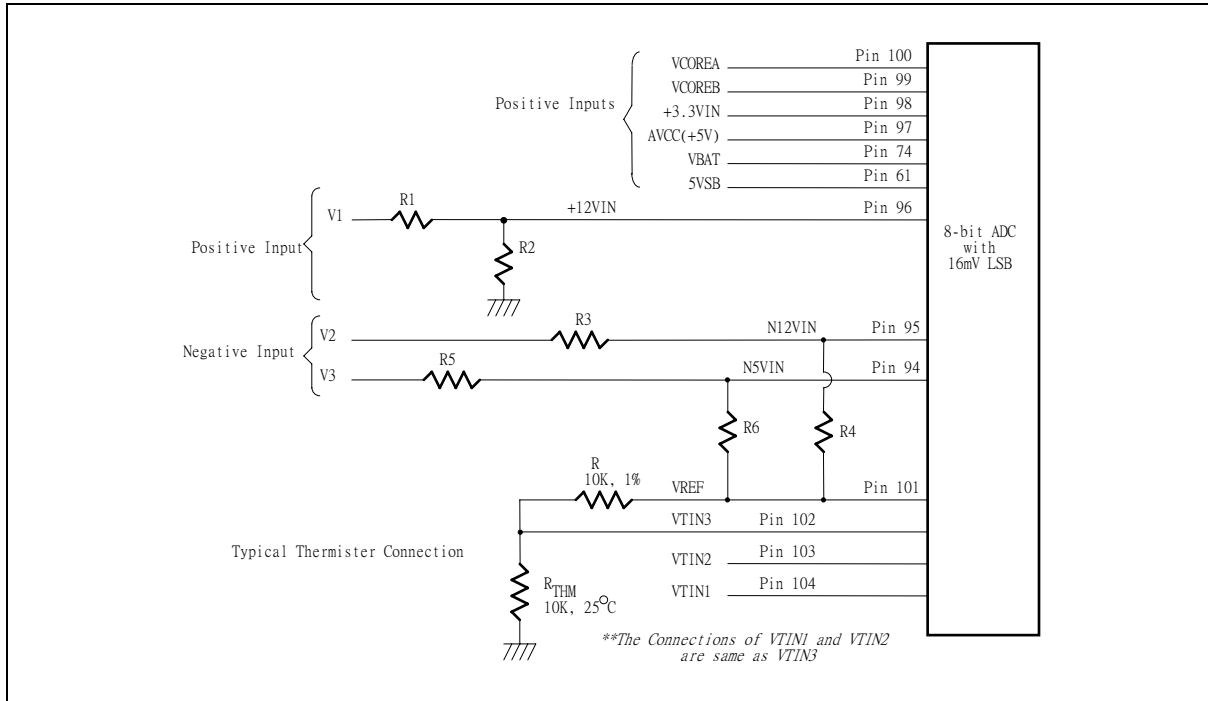

Figure. 8.2
The maximum input voltage of the analog pin is 4.096V because the 8-bit ADC has a 16mv LSB. Really, the application of the PC monitoring would most often be connected to power suppliers. The CPU V-core voltage, +3.3V, battery and 5VSB voltage can directly connected to these analog inputs. The +12V,-12V and -5V voltage inputs should be reduced a factor with external resistors so as to obtain the input range. As Figure 8.2 shows.
The negative voltage should be connected two series resistors and a positive voltage VREF (is equal to 3.6V) . In the Figure 8.2, the voltage V2 and V3 are two negative voltage which they are -12V and -5V respectively. The voltage V2 is connected to two serial resistors then is connected to another terminal VREF which is positive voltage. So as that the voltage node N12VIN can be obtain a posedge voltage if the scales of the two serial resirtors are carefully selected. It is recomanded from Winbond that the scale of two serial resistors are R3=232K ohm and R4=56K ohm. The input voltage of node N12VIN can be calculated by following equation.
The W83627HF can connect three thermistors to measure three different environment temperature. The specification of thermistor should be considered to (1)  $\beta$  value is 3435K, (2) resistor value is 10K ohms at 25°C. In the Figure 8.2, the thermistor is connected by a serial resistor with 10K Ohms, then connect to VREF (Pin 101) .